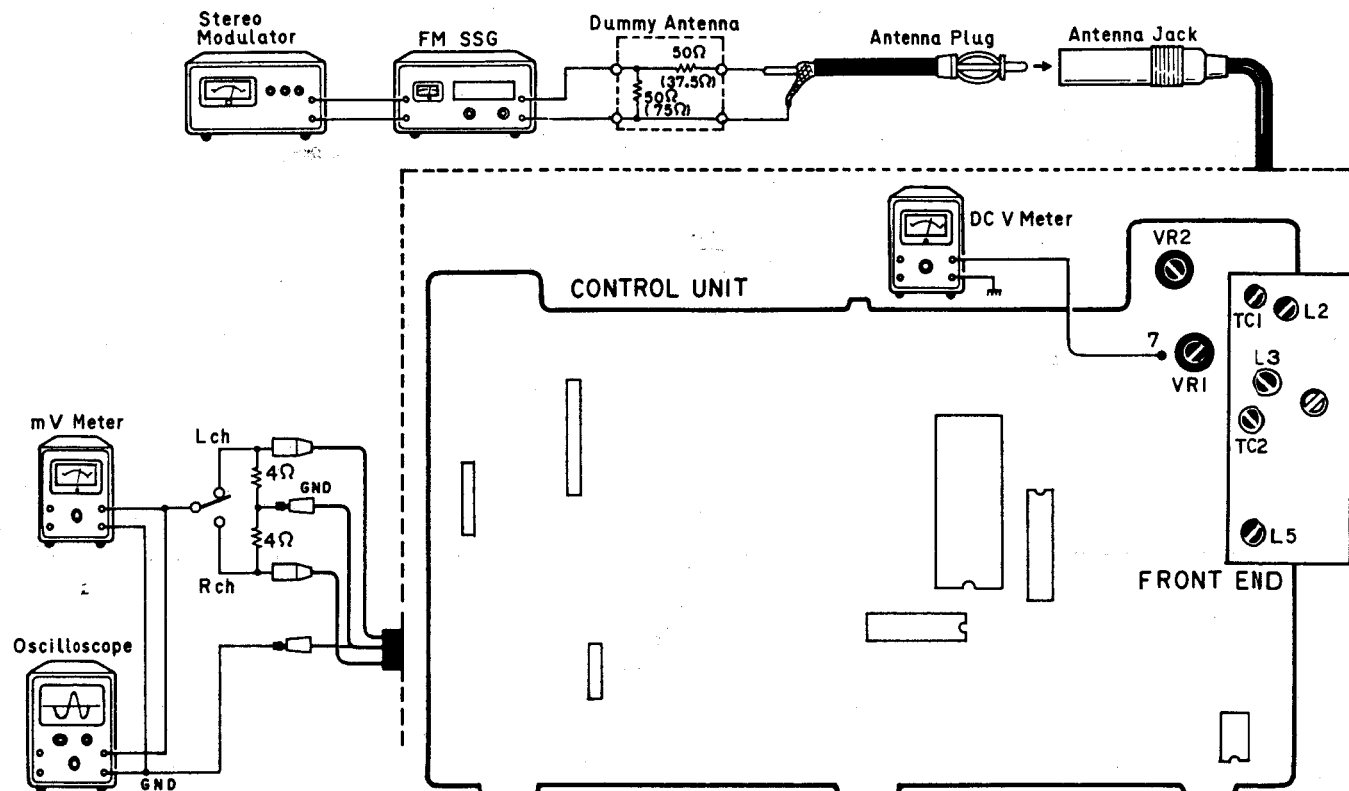

Fig. 20
- Connection Diagram (Shown in Fig. 20)